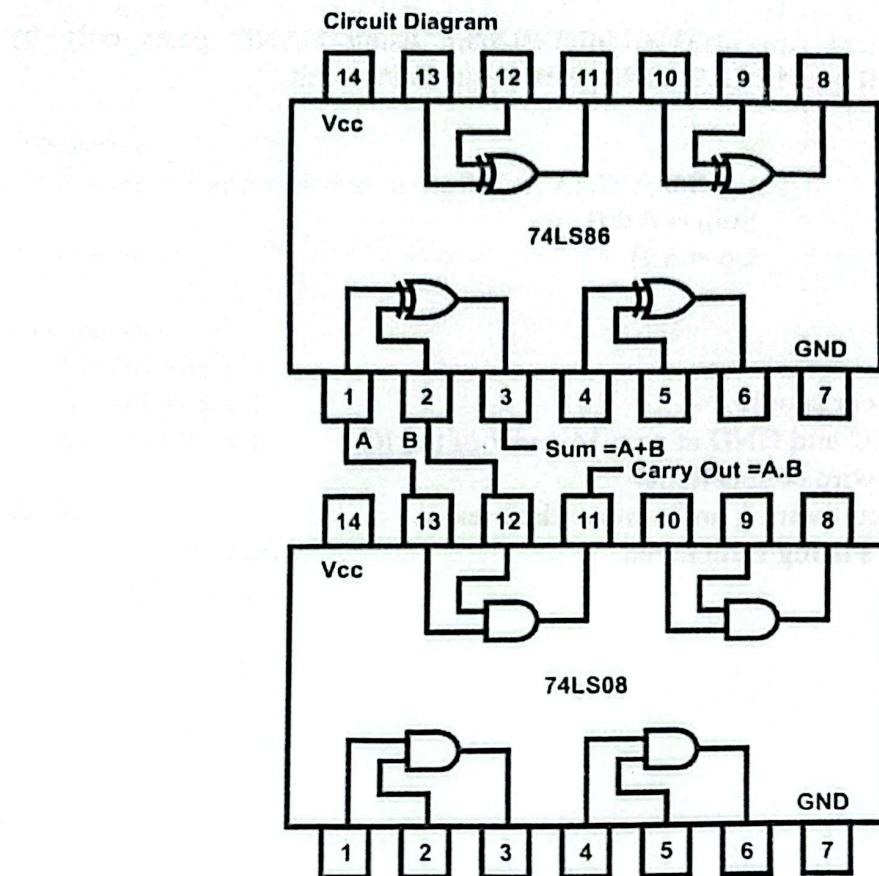

Fig. 9.2
4. Wire the circuit according to the diagram in figure 9.2.